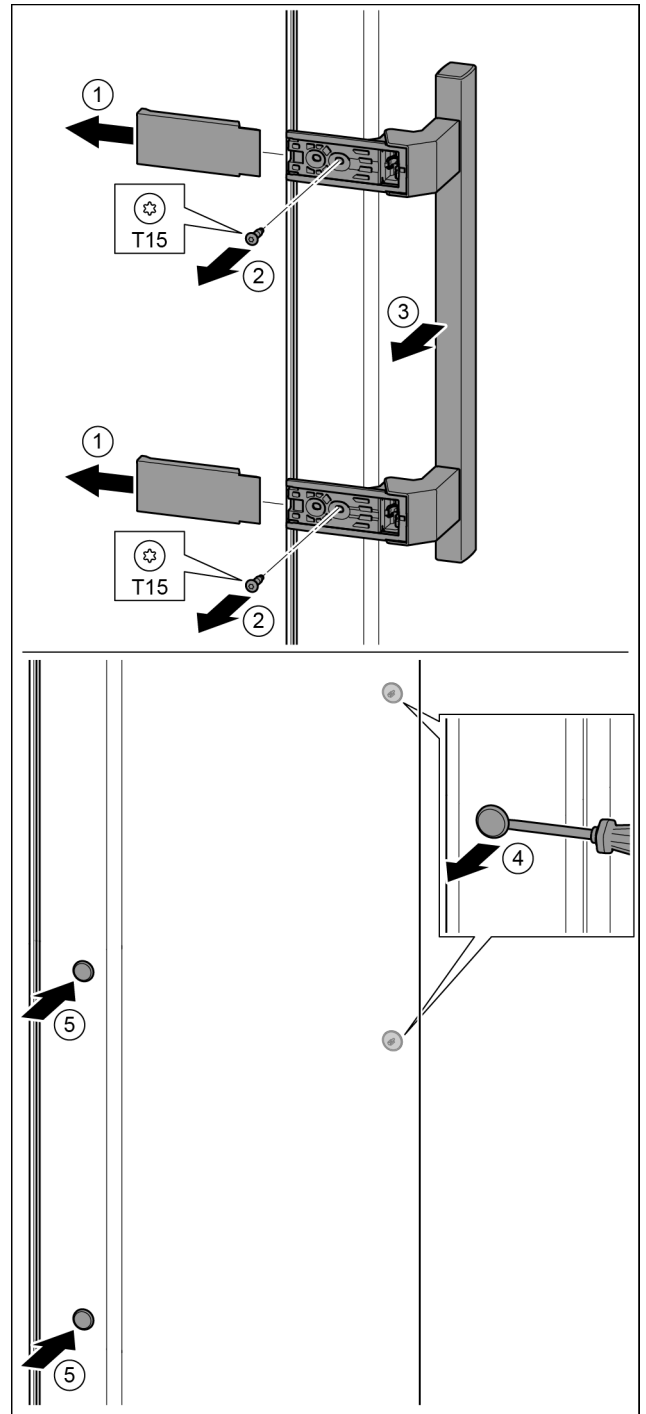

Fig. 16
- ▶ Pull off the cover. Fig. 16 (1)
- ▶ Remove the screws with the T15 screwdriver. Fig. 16 (2)
- ▶ Remove the handle. Fig. 16 (3)
- ▶ Carefully lift up the side plugs with a slotted screwdriver and pull them out. Fig. 16 (4)
- ▶ Insert the plugs again on the other side. Fig. 16 (5)